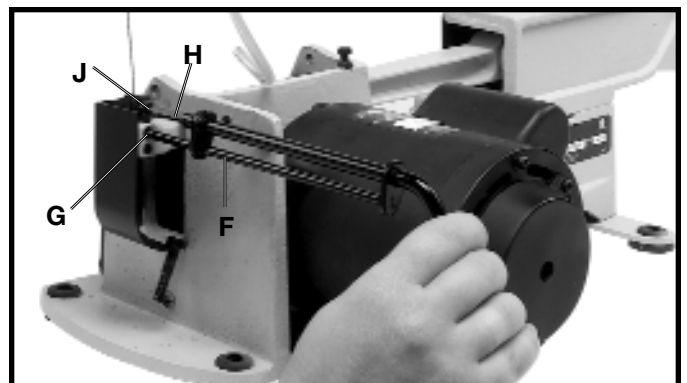

Fig. 5
4. Insert long end (F) Fig. 5, of quickset blade changing wrench into hole (G) in lower blade holder. This will align wrench (H) with blade holder screw (J). Turn wrench (H) counter-clockwise. This will release the blade from the lower chuck assembly.